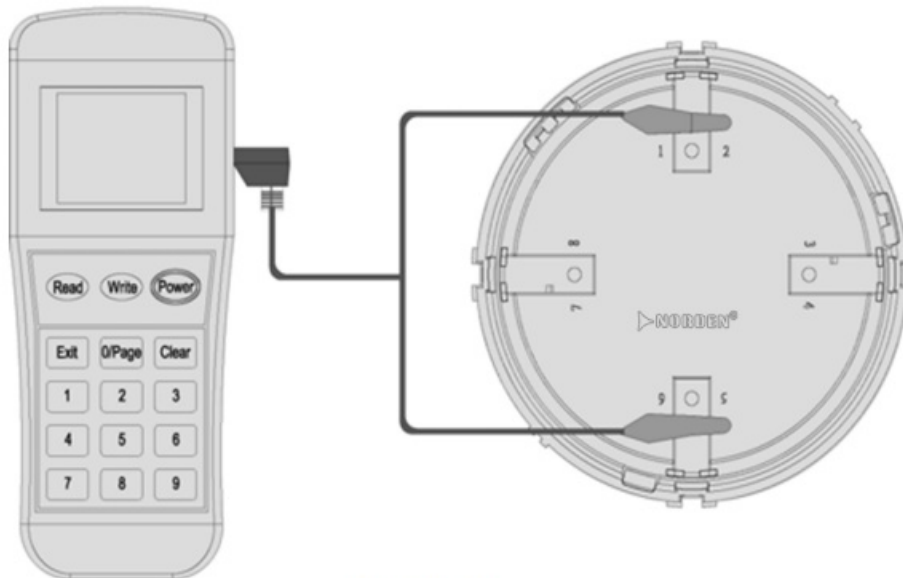

Figure 4
1. Connect the programming cable to Z1 and Z2 terminals (Figure 4). Press “Power” to switch on the unit.